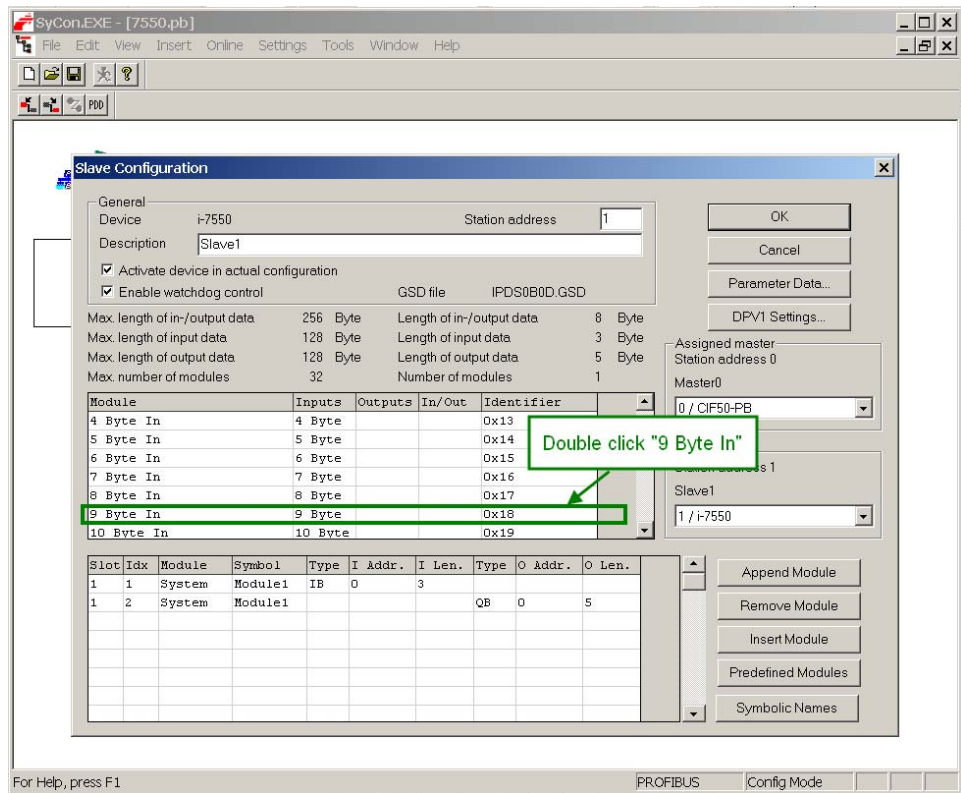

Figure 33: Select an input length of 9 bytes
- Select the **input length**: In this example a length of 9 bytes is selected (*Figure 33*)